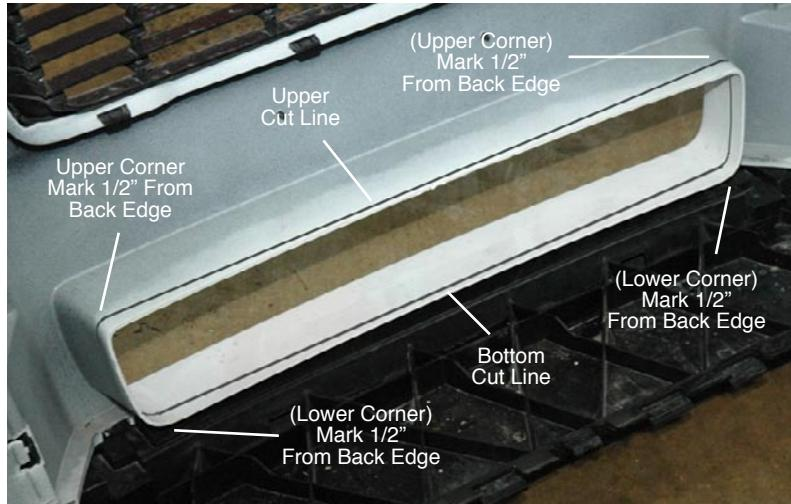

Figure 6.1
- At each corner of bottom surface mark a line 1/2" from back edge (see Fig. 6.1).
- At each corner of top surface mark a line 1/2" from back edge (see Fig. 6.1).
- Using a straight edge, mark line across bottom surface connecting corner marks (see Fig. 6.1).
- Repeat for top surface (see Fig. 6.1).
- Draw lines on side surfaces connecting upper and lower corners (see Fig. 6.1).